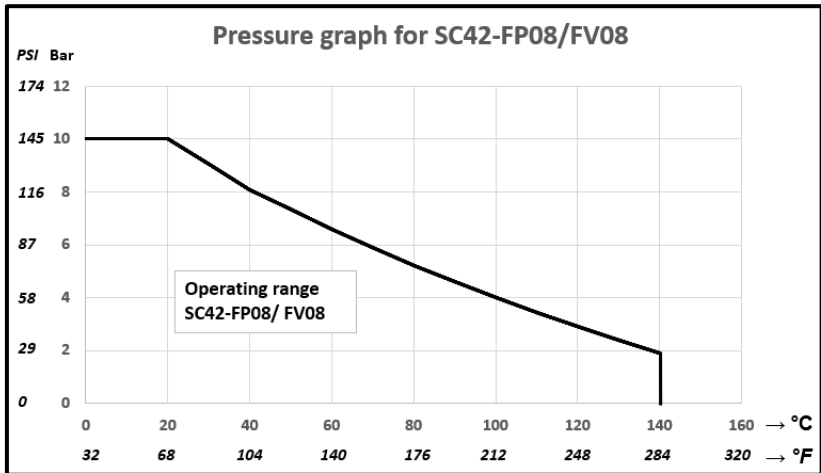

Figure 2: Pressure vs Temperature
* Pressure range for FP/FV is temperature dependent, see Figure 2